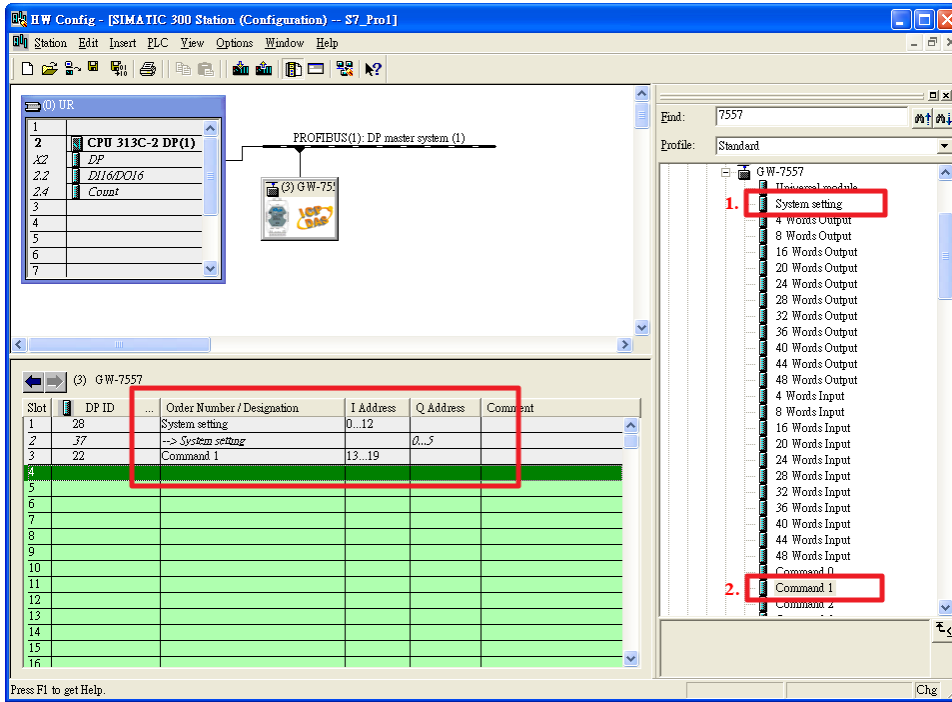
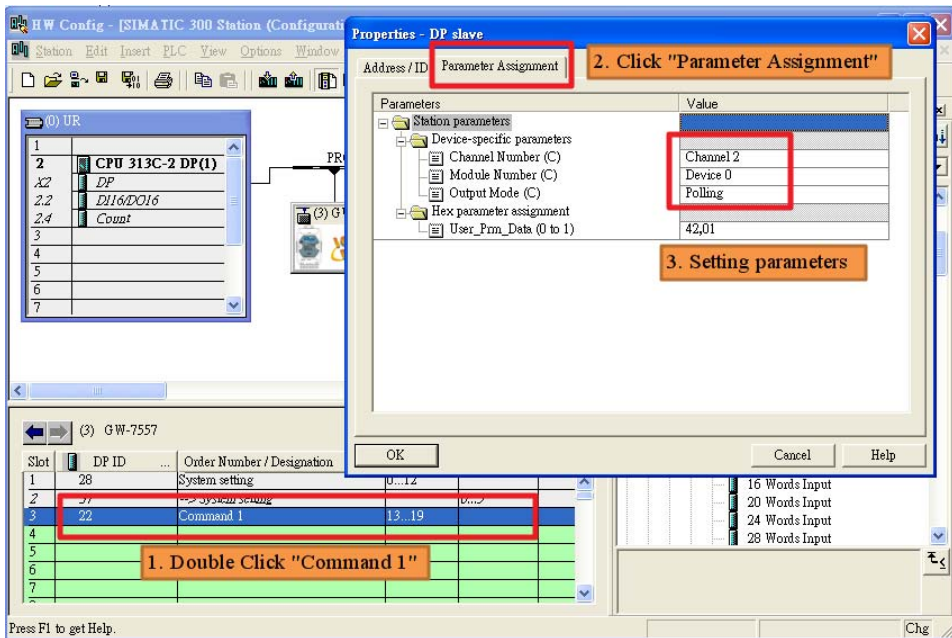

Figure 35 Select modules
Figure 36 Set module parameters of Command 1 module
Step 4: Set the GW-7557 modules, as shown in *Figure 35* and *Figure 36*.